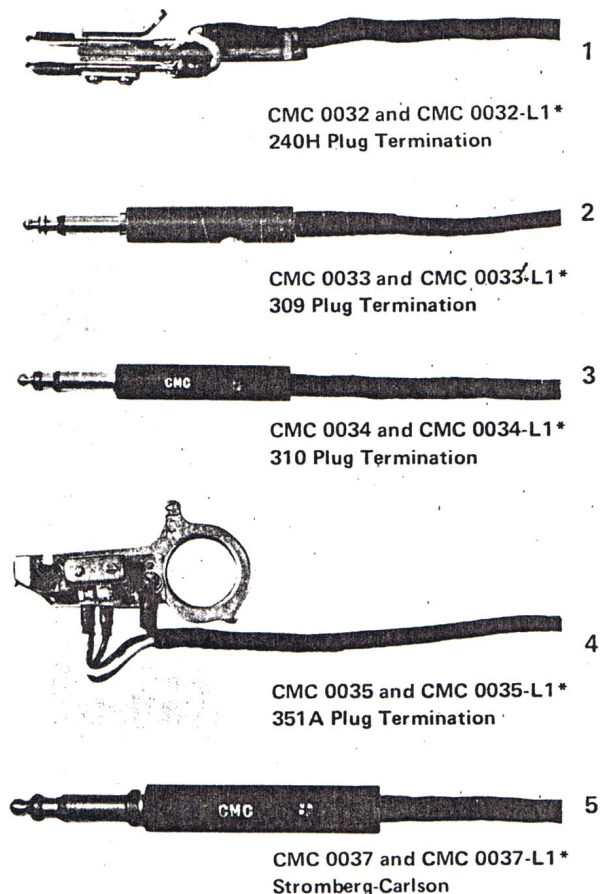

Figure 2 Cord Terminations for Trub-L-Shooter Quik-Connect Test Cords
1.03 By selection of the appropriate quick-connect test cord (see Figure 2), the Trub-L-Shooter can be connected to any central office and PBX equipment.